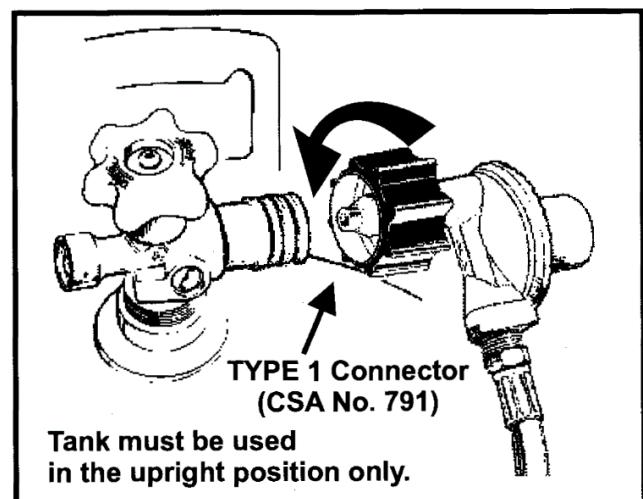

**Figure 1. Normal Flame Position**
- d. The flame pattern at the emitter grid should be visually checked whenever heater is operated (see figure 1.). If flames extend more than ½ inch beyond surface of the emitter grid or black soot is accumulating on the emitter grid or reflector, the heater should be turned off immediately. The heater should not be operated again until repairs are made.